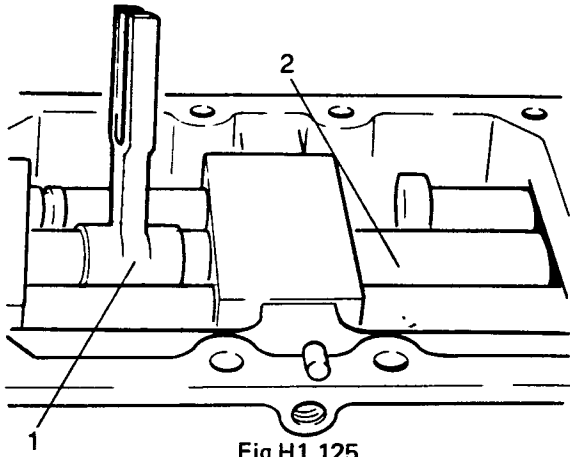

Fig H1.125
(6) Refer to Fig H1.125. Replace the 3rd and 4th selector shaft fork and replace the shaft (2) by sliding it forwards.
(7) Replace the locking roller through the hole in the cover and replace the spring pin (1) in the 3rd and 4th speed selector fork to hold it to the selector shaft.